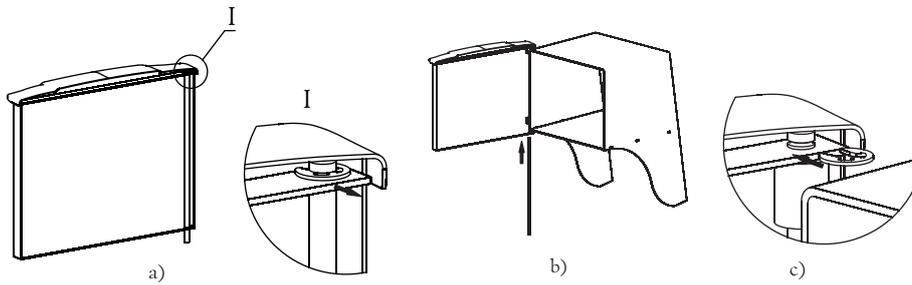

Figure 7. Assembly of the door under installation of the stove «Angara 2012»
1. Remove a stop quick-detachable collar, then remove the axis out of the door, see figure 7.a;
3. Set an axis from bottom to top through holes. Place a groove under a collar in the top part of an axis, see figure 7.b;
4. Install a stop quick-detachable collar in a groove on an axis, see figure 7.c.